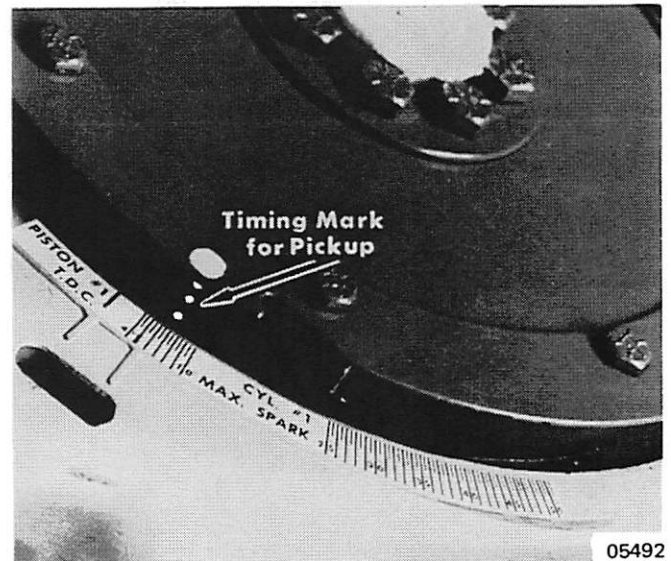

Figure 3. Timing Mark in Line with Degree Markings
1. With timing lite installed, turn ignition key on and start engine. Hold timing lite in line with degree markings on top cowl support frame (Figure 3) and advance throttle until timing mark (3 dots) aligns on timing decal at 5°-7° BTDC (up to Serial No. 2928768) or TDC to 2° BTDC (Serial No. 2928768 and up).